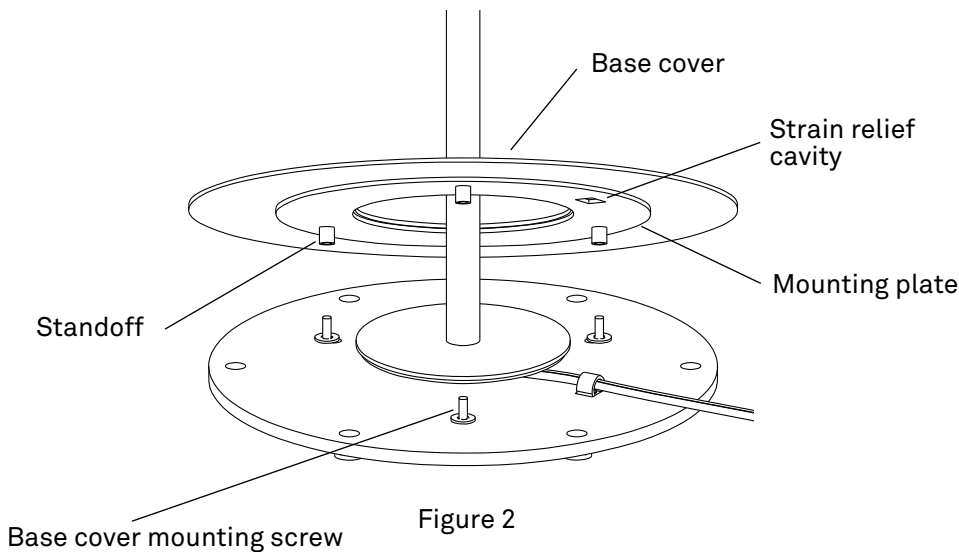

Figure 2
3. With the cord flat, and the nose of the strain relief in the strain relief cavity, lower the base cover and thread the base cover mounting screws into the standoffs on the mounting plate such that the strain relief cavity in the mounting plate aligns with the heel of the strain relief (Figure 2).